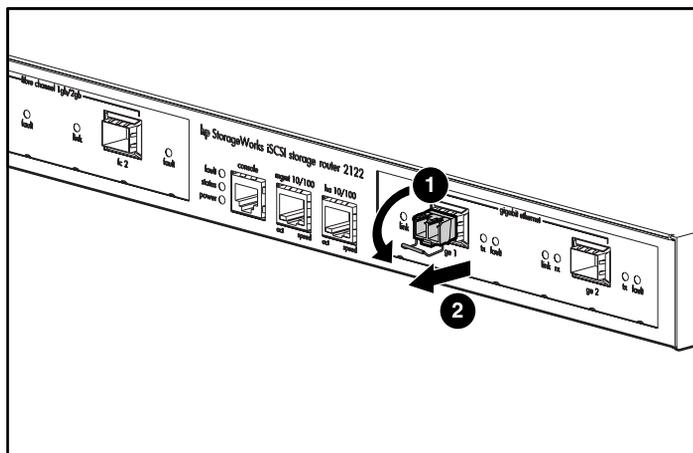
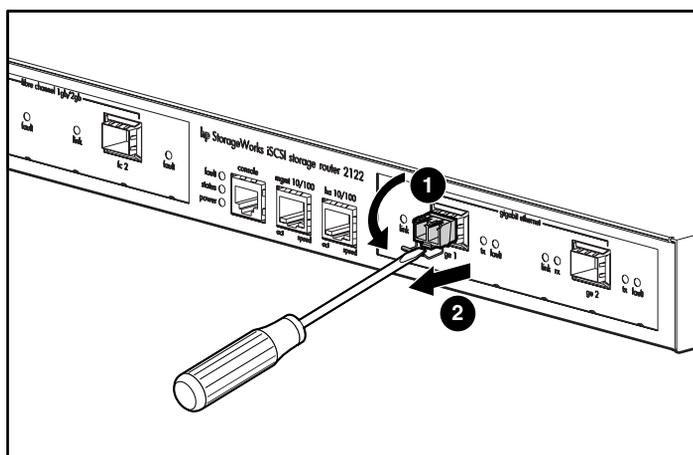

Figure 23: Removing a bale clasp SFP module with your index finger
Figure 24: Removing a bale clasp SFP module with a flat-blade screwdriver
1. Open the bale clasp on the SFP module with your index finger in a downward direction, as shown in Figure 23. If the bale clasp is obstructed and you cannot use your index finger to open it, use a small, flat-blade screwdriver or other long, narrow instrument to open the bale clasp as shown in Figure 24.
2. Grasp the SFP module between your thumb and index finger and carefully remove it from the port as shown in Figure 23.